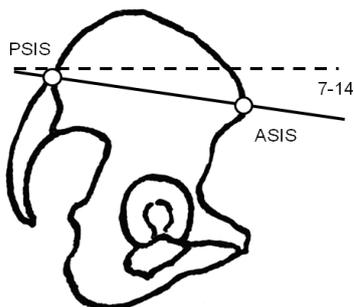

Figure 5: Pelvic tilt as viewed in the sagittal plane.
- **Pelvic tilt:** this is rotation of the pelvis about the medio-lateral axis, visible from the side in the sagittal plane. It is normal for the line between the posterior and anterior superior iliac spines to give an anterior pelvic tilt of 7-14° (see Figure 5)